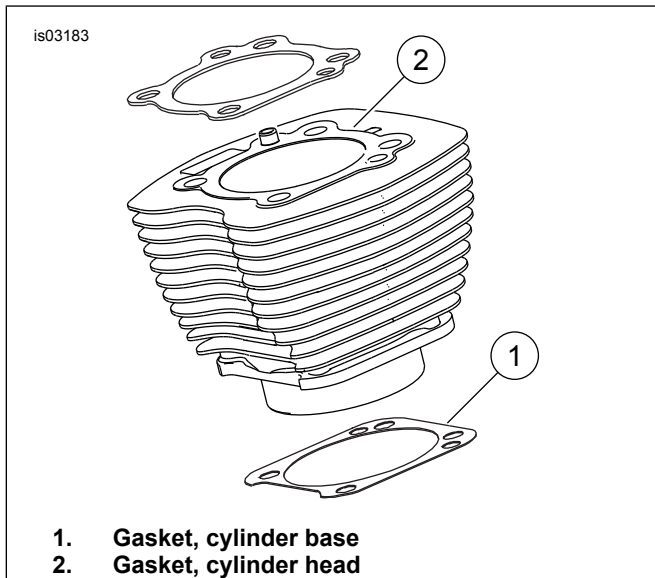

Figure 1. Cylinder Gaskets
- See Figure 1. The 103.1 mm (4.060 in) cylinder base gasket (1) and cylinder head gasket (2) eliminate the need for O-rings. Do not use O-rings on cylinder dowels or cylinder spigots.
- When installing new base gasket (1), install with embossed side down and concave side up.